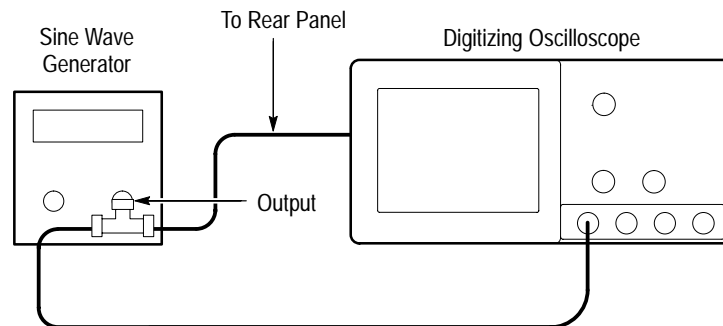

Figure 4–15: Initial Test Hookup
- Connect a BNC T connector to the output of the sine wave generator (see Figure 4–15).